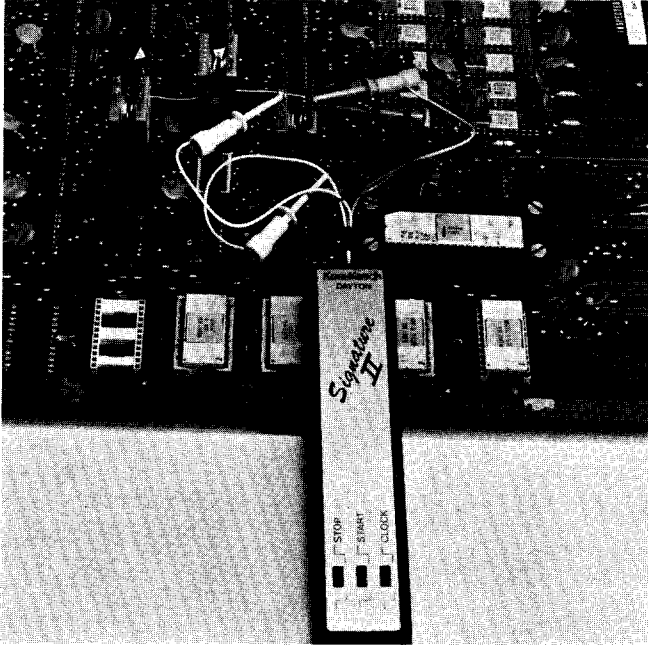

FIGURE 9
1. Data bus with bus drivers hardwired. (Figure 9)